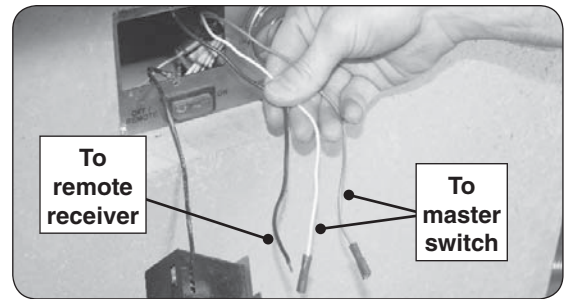
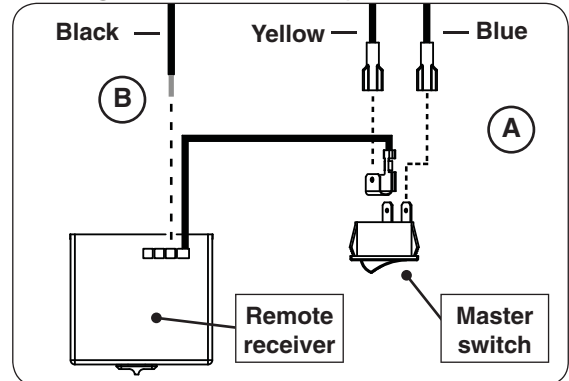

Fig. 25-1 Locate 3 exposed wires
Fig. 25-2 Reconnect receiver & switch wires
1. Locate the 3 exposed wires and connect to the remote receiver and master switch (see Fig. 25-1 and Fig. 25-2).